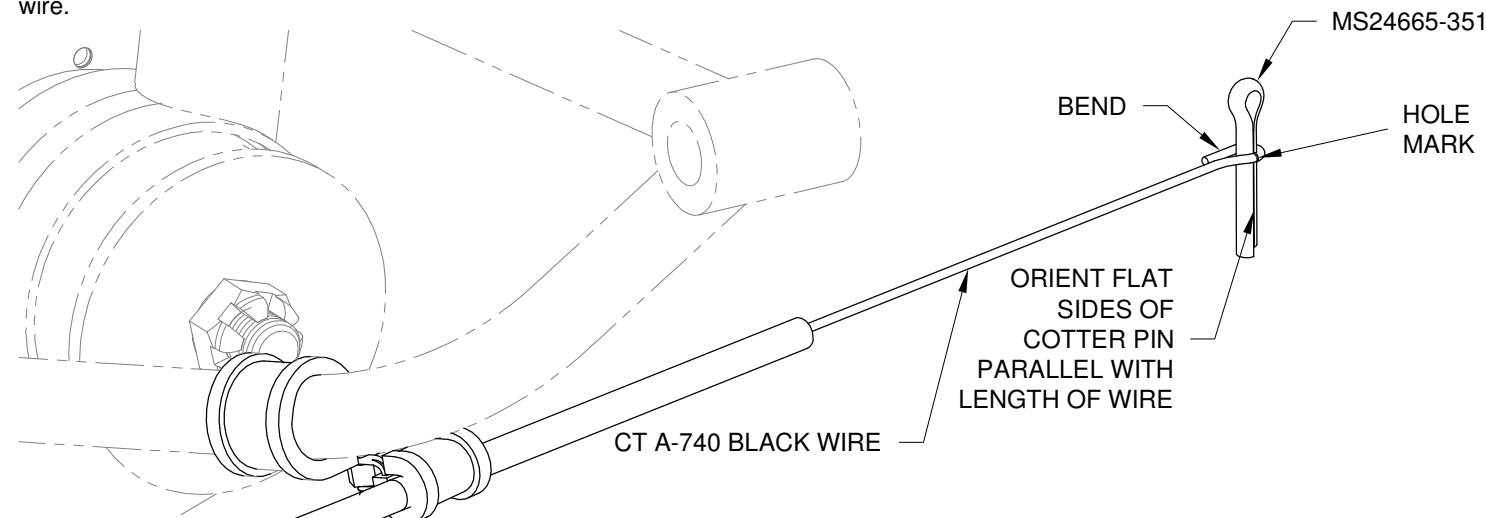

FIGURE 2: BENDING THE CABIN HEAT CABLE WIRE
Step 4: Bend the end of the CT A-740 BLACK Push Pull Cable wire to fit around the cotter pin as shown in Figure 2. Trim away excess wire.